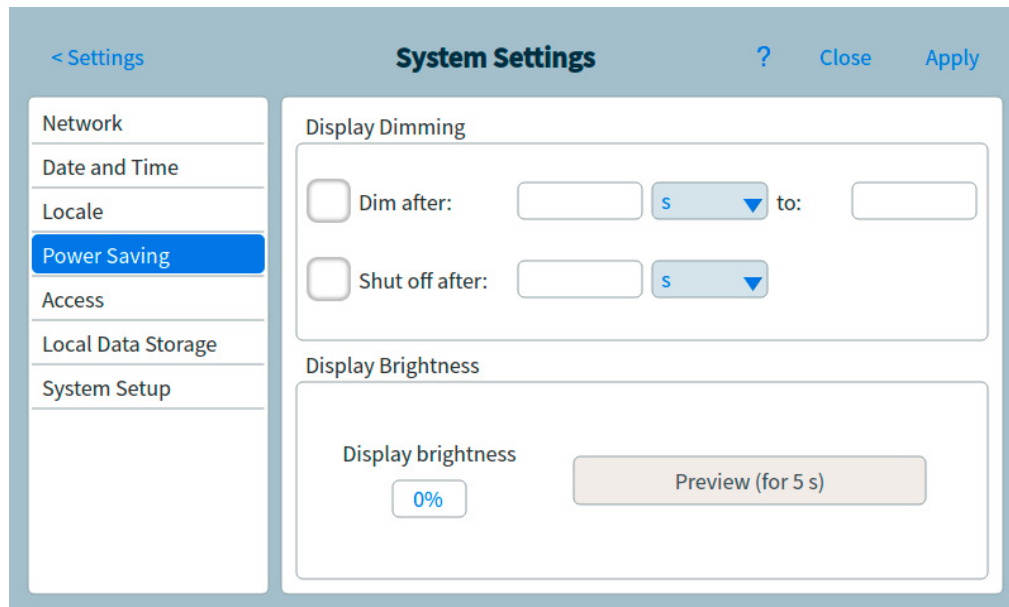

Figure 47. Power Saving page
- 1 From the System Settings page, select the **Power Saving** page selection button. The Power Saving page appears. See **Figure 47**.